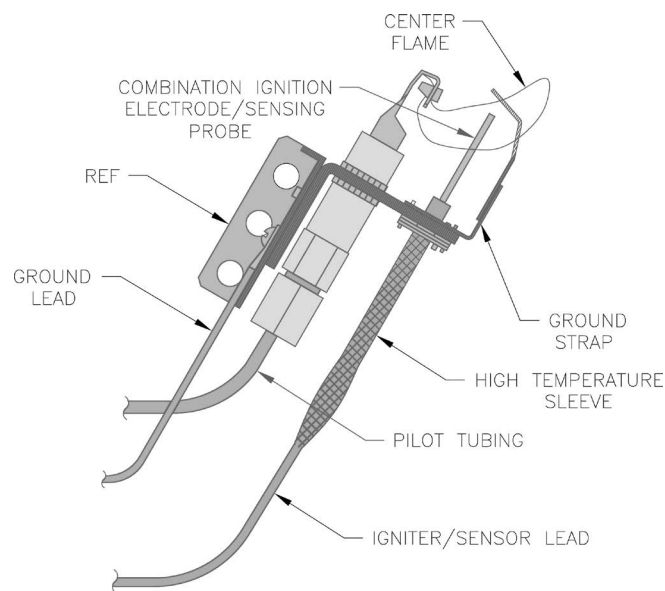

Figure 10-4: LP Gas Pilot Flame
LP Gas Only. Pilot burner produces three (3) flames. The center flame should be steady, medium hard blue enveloping 3/8 to 1/2 inch of sending probe. See Figure 10-4.